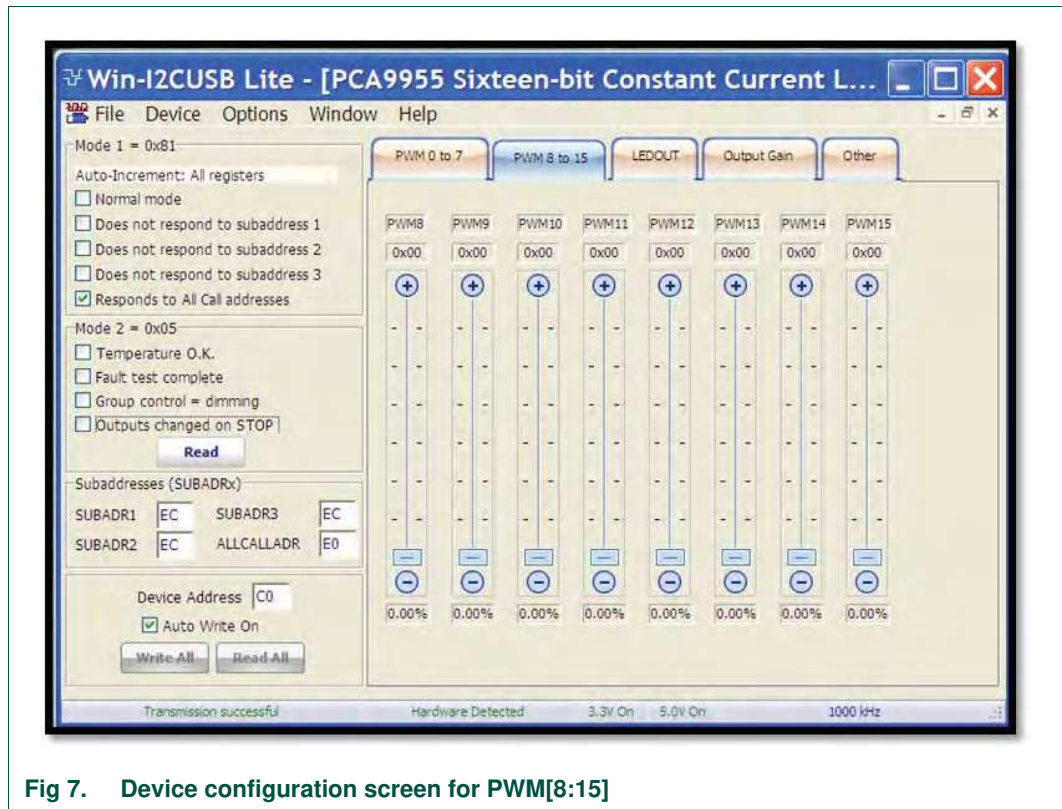

Fig 7. Device configuration screen for PWM[8:15]
- 'PWM 8 to 15' individual brightness control for LED8 to LED15 as shown in Figure 7.